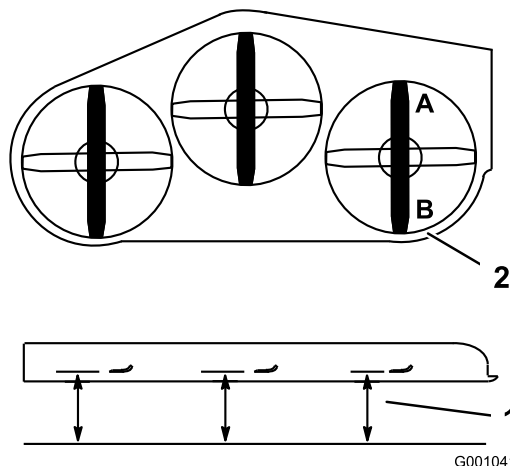

Figure 82
1. Position the right blade front-to-rear (Figure 82).
2. Measure the right blade at the **A** location, from a level surface to the cutting edge of the blade tip (Figure 82).
4. Measure the right blade at the **B** location, from a level surface to the cutting edge of the blade tip (Figure 82).
6. The mower blade should be a 6 to 10 mm (1/4 to 3/8 inch) lower at position **A** than at position **B** (Figure 82). If it is not correct, proceed to the following steps.